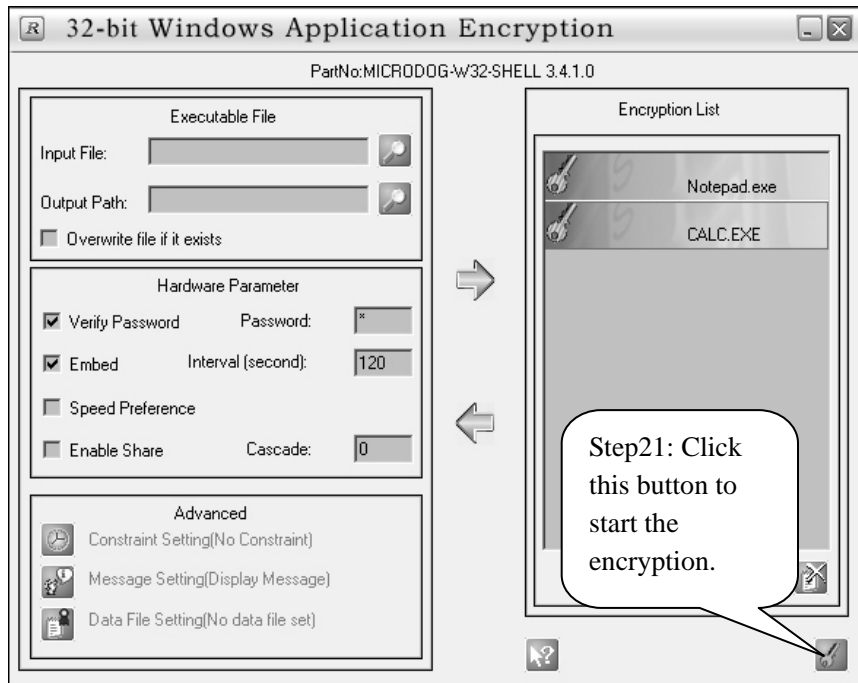

Figure 4-12
10. Follow the Step 21 on the Figure 4-12 to execute the encryption.